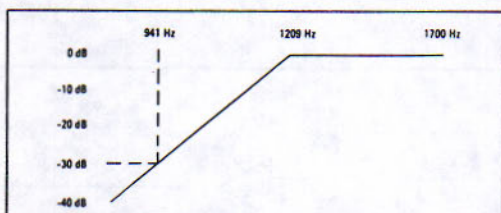

Figure 8. High-Pass Filter Specification — Keyphone Application
5. High-Pass Filter — attenuation at 941 Hz: 30 dB typical. The comments in the low-pass-filter section are applicable. The response curve suggested for keyphone applications is shown in figure 8.